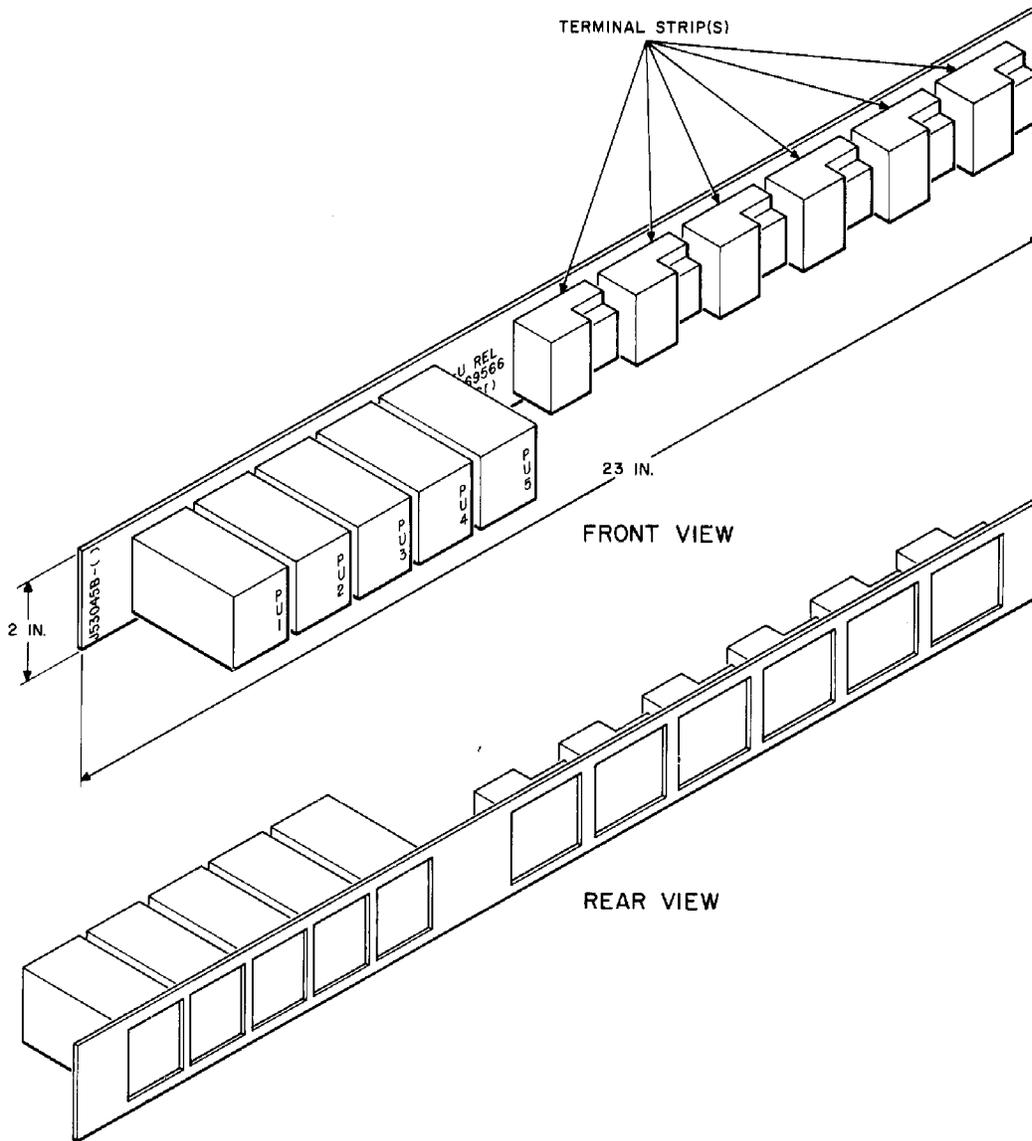

Fig. 2—Multiple Station Line Pickup Relay Unit
**2.05** This unit (Fig. 2) is available to provide connections for up to five 4-wire private lines to one key type station set. Similar units associated with the same or other 4-wire private lines may be interconnected so that each 4-wire private line may be accessible to more than one station set and/or each station set may have access to more than one 4-wire private line. This single-plate unit is equipped with six wire-wrap terminal strips for installer connections.